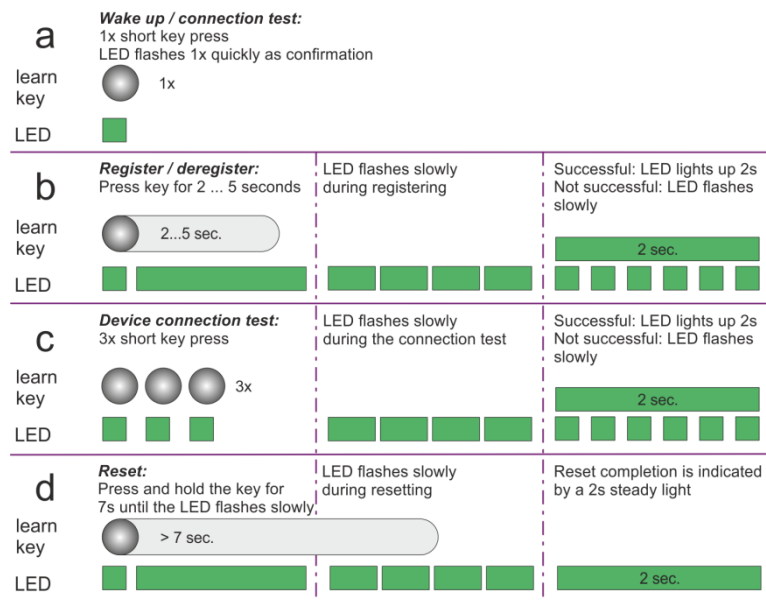

Fig.: 63: Functions of the learn key **heatapp! floor**
3. Press the learn key (10) once (see also Fig. 63 "Functions of the learn key **heatapp! floor**", row "a").
Activating reset returns the device to its factory settings. To do this, press the learn key (10) for 7 seconds until the LED flashes (see also Fig. 63 “Functions of the learn key **heatapp! floor**”, row “d”).